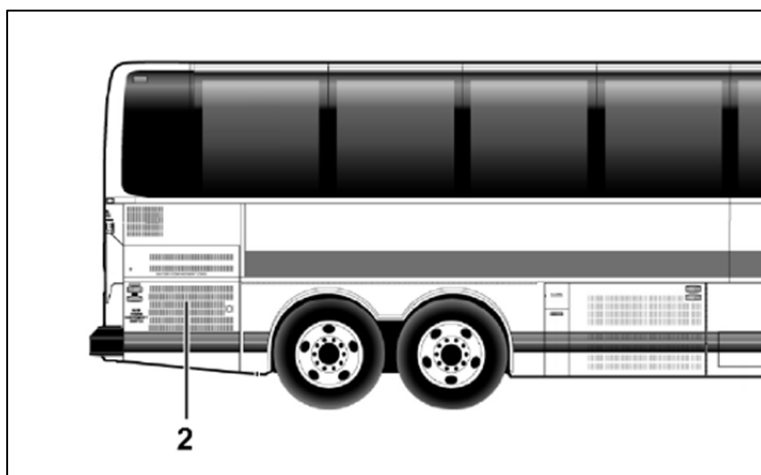

Figure 1
- Open curb side engine compartment door. (Item 2, Fig. 1)